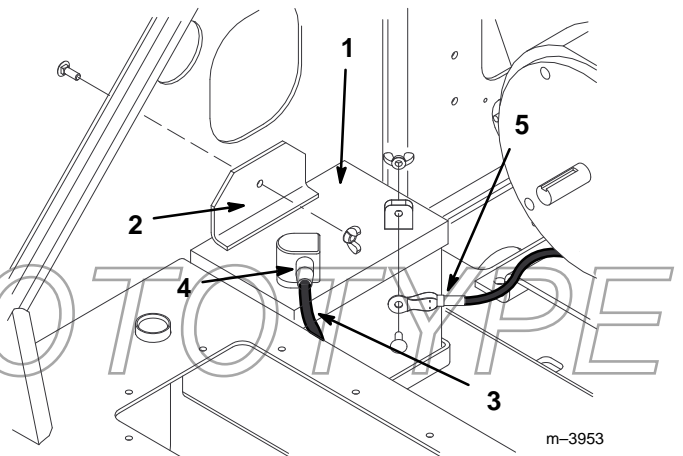

Figure 2
1. Remove the wing nut and bolt securing the battery clamp and strip (under the clamp) and remove the clamp and strip (Fig. 2).
8. Install the battery into the chassis (Fig. 2).
9. Secure the battery in the chassis with the battery clamp, strip, and wing nut (Fig. 2).
10. Using the bolt and wing nut supplied with the battery, connect the positive (red) cable to the positive (+) battery post (Fig. 2). Slide the rubber cover over the battery post.
11. Using the bolt and wing nut supplied with the battery, connect the negative (black) cable to the negative (-) battery post (Fig. 2).